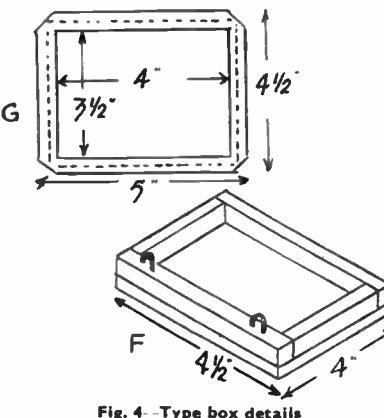

Fig. 4—Type box details
The chase or type box (F) in Fig. 4, is a rectangle of  $\frac{1}{8}$  in. fretwood. Strips of wood,  $\frac{1}{8}$  in. thick and  $\frac{1}{8}$  in. wide are firmly glued and screwed to it, making a shallow tray to hold the type. A metal frame is now made to the size given at (C) from tinplate. This is to hold the padding between the type and flat base of